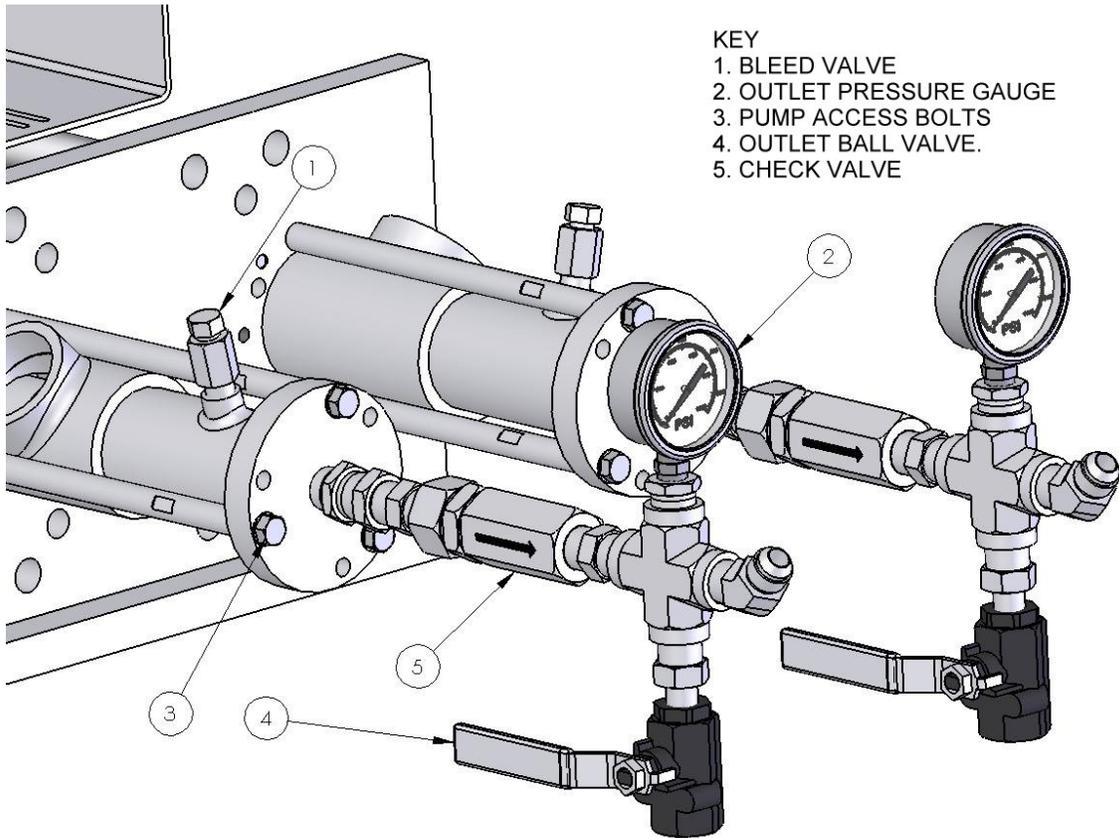

Figure 1
- 1.1. Open the bleed valve, (fig 1, #1) on the top of each pressure tube until a steady, air-free stream of material flows from the small port in the valve.
- 2.10. Input a start signal and watch the start of each cycle in between each adjustment until both materials come out simultaneous. This will get the phasing very close. Excess difference of rod positions, (more than ½”) typically indicates air entrapment but also could be a worn pressure seal or malfunctioning check valve, (fig 1, #5), see the “pressure seal/check valve” test procedure in the manual.
- 3.2. Dispense a small amount of material a few times while watching the outlet pressure gauges, (fig 1, #2) at the beginning of each cycle. (The pressures may be different but should start rising together.)